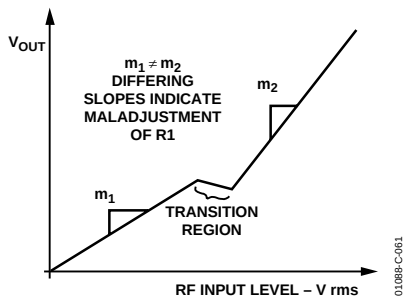

Figure 61. Slope Adjustment
3. Set R_1 so that the transfer function's slopes are equal on both sides of the transition zone. This is perhaps best accomplished by making a plot of the overall transfer function (using linear voltage scales for both axes) to assess the match in slope between one side of the transition region and the other (see Figure 61). Note: it may be helpful to adjust R_3 to remove any large misalignment in the transfer function in order to correctly perceive slope differences.